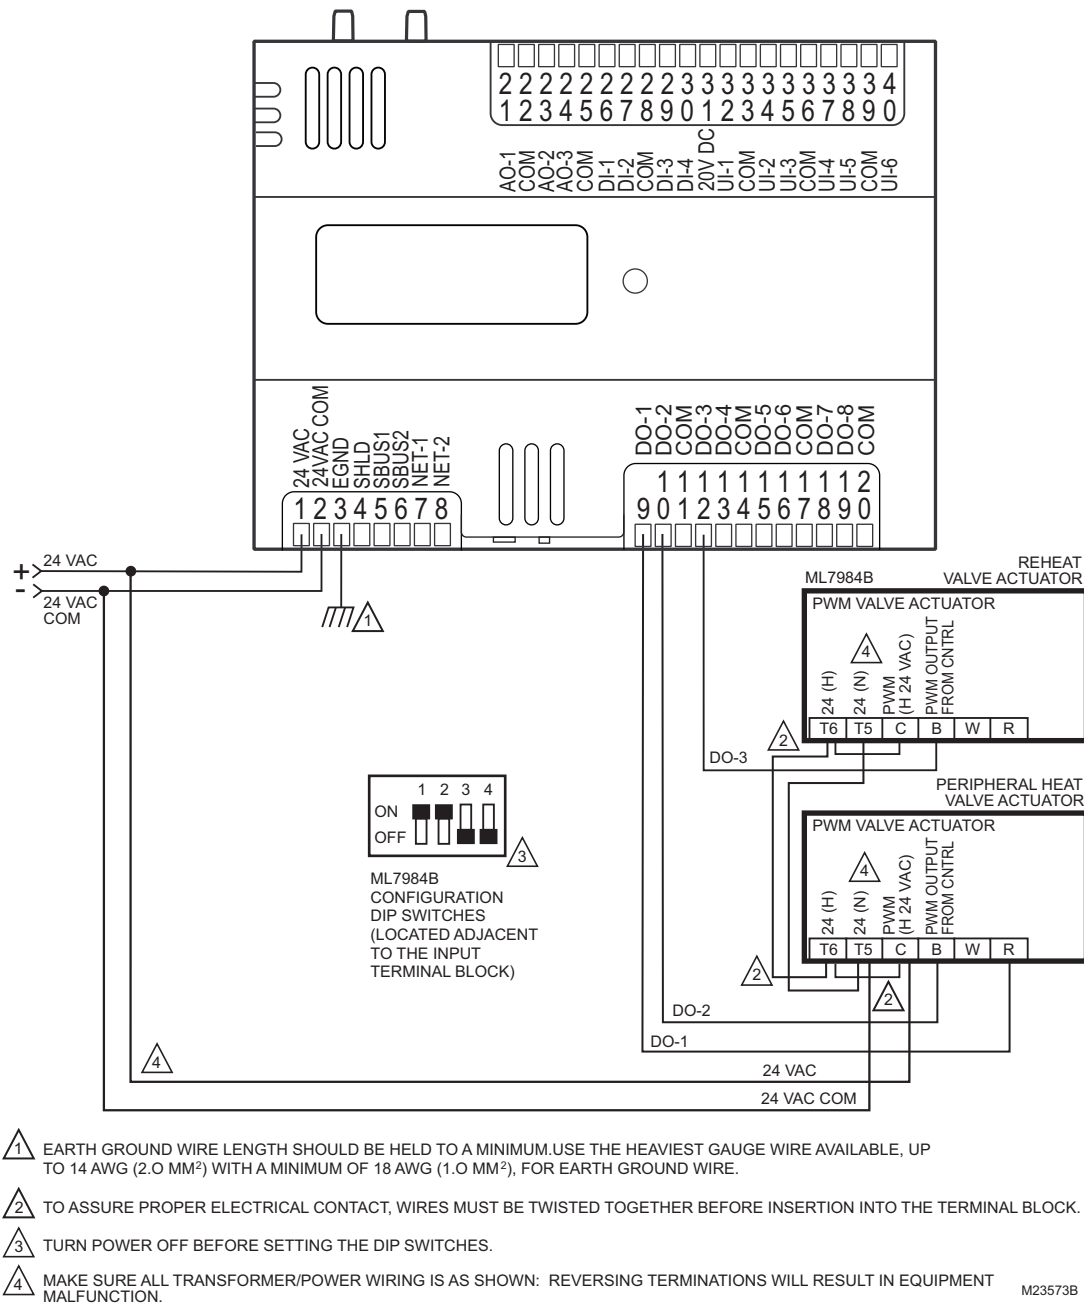

Fig. 20. Controller wiring diagram (model CP-UL6438S shown) for typical PWM reheat and PWM peripheral heat valve actuator. (For note 2, refer to Fig. 15.)
- Typical controller wiring for PWM reheat and PWM peripheral heat valve actuator (see Fig. 20 on page 17).
NOTE: Make sure to set the Configuration DIP Switch as shown in Fig. 20. Switches 1 through 3 set the timing of the ML7984B valve actuator to match the controller